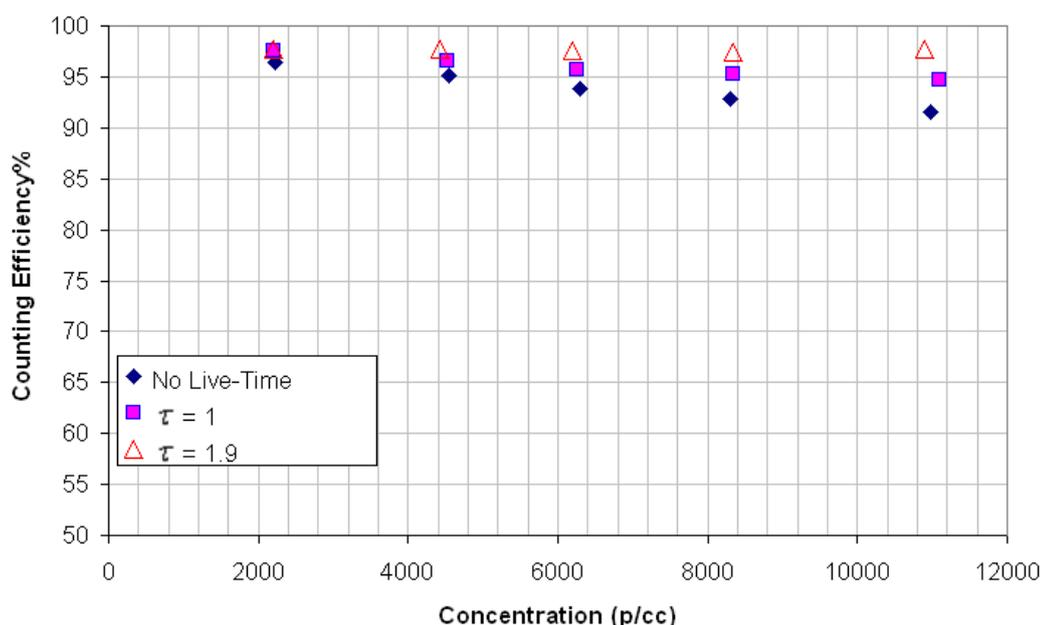

Fig. 1: Counting efficiency of the EECPC Model 3790 using different electronic processing schemes.
Figure 1 shows counting efficiency data from an EECPC Model 3790 using three different electronics processing schemes. No live-time represents data using the total sample time in the concentration calculation as detailed in equation (1).  $\tau = 1$  uses equation (3) to calculate concentration, and effectively uses no dead time factor.  $\tau = 1.9$  uses a dead time factor of 1.9 and is the default setting of the 3790 CPC.